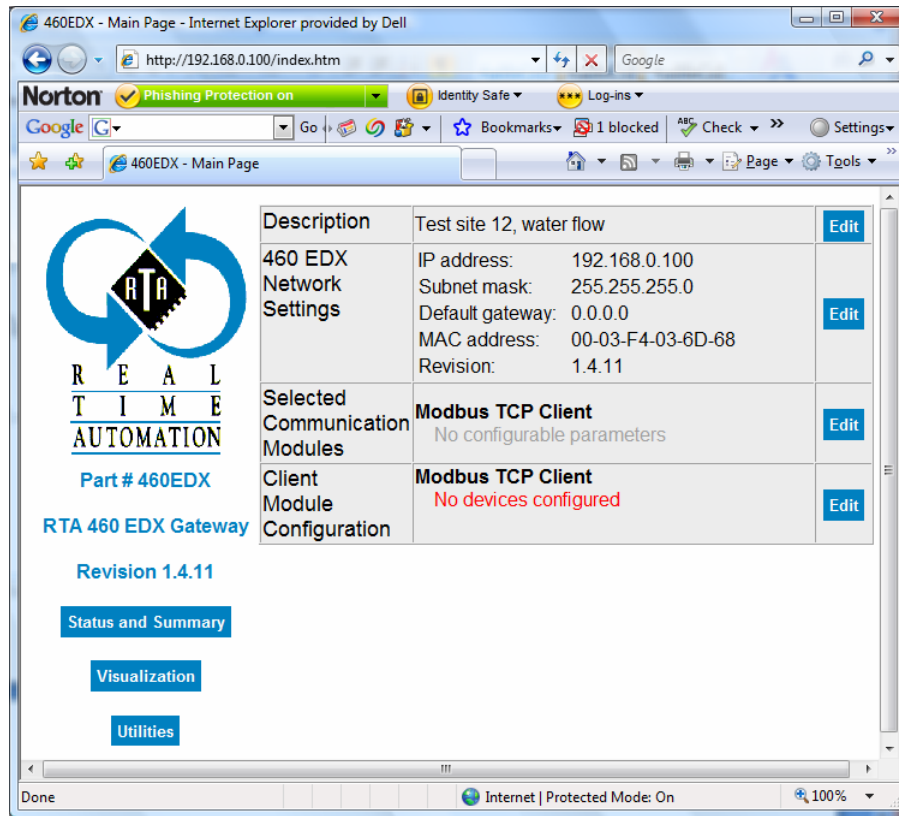

Figure 2-21 Modbus TCP Client Module Configuration
- Click on the Return to Main button. The RTA 460 Gateway Main Page displays with a Client Module Configuration option. See Figure 2-21.